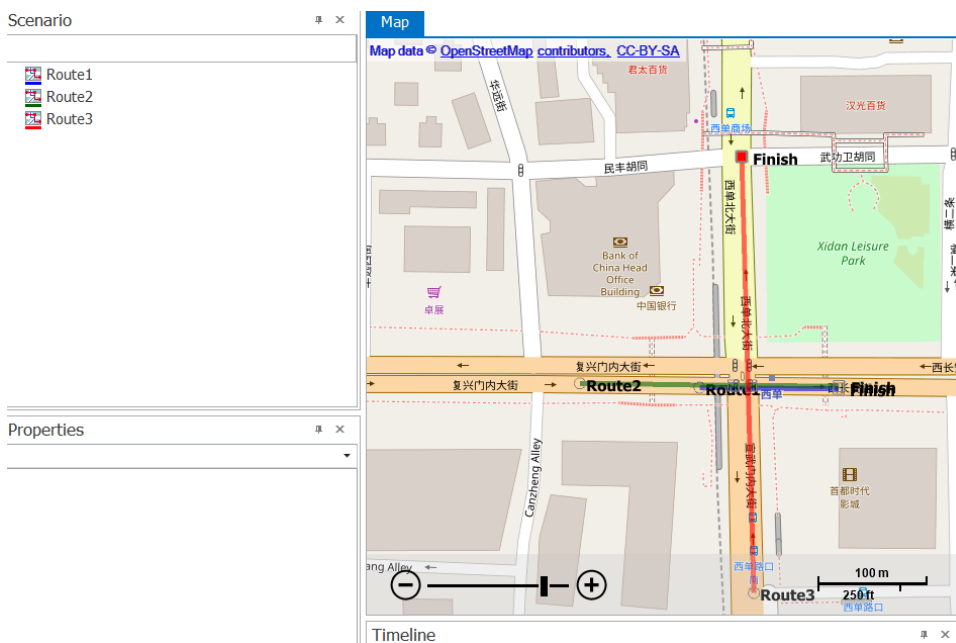

Figure 12: Add a new longitudinal route
- ▶ Add a new longitudinal vehicle route and edit it to fit the HV's path in the ICW scenario (Figure 12).